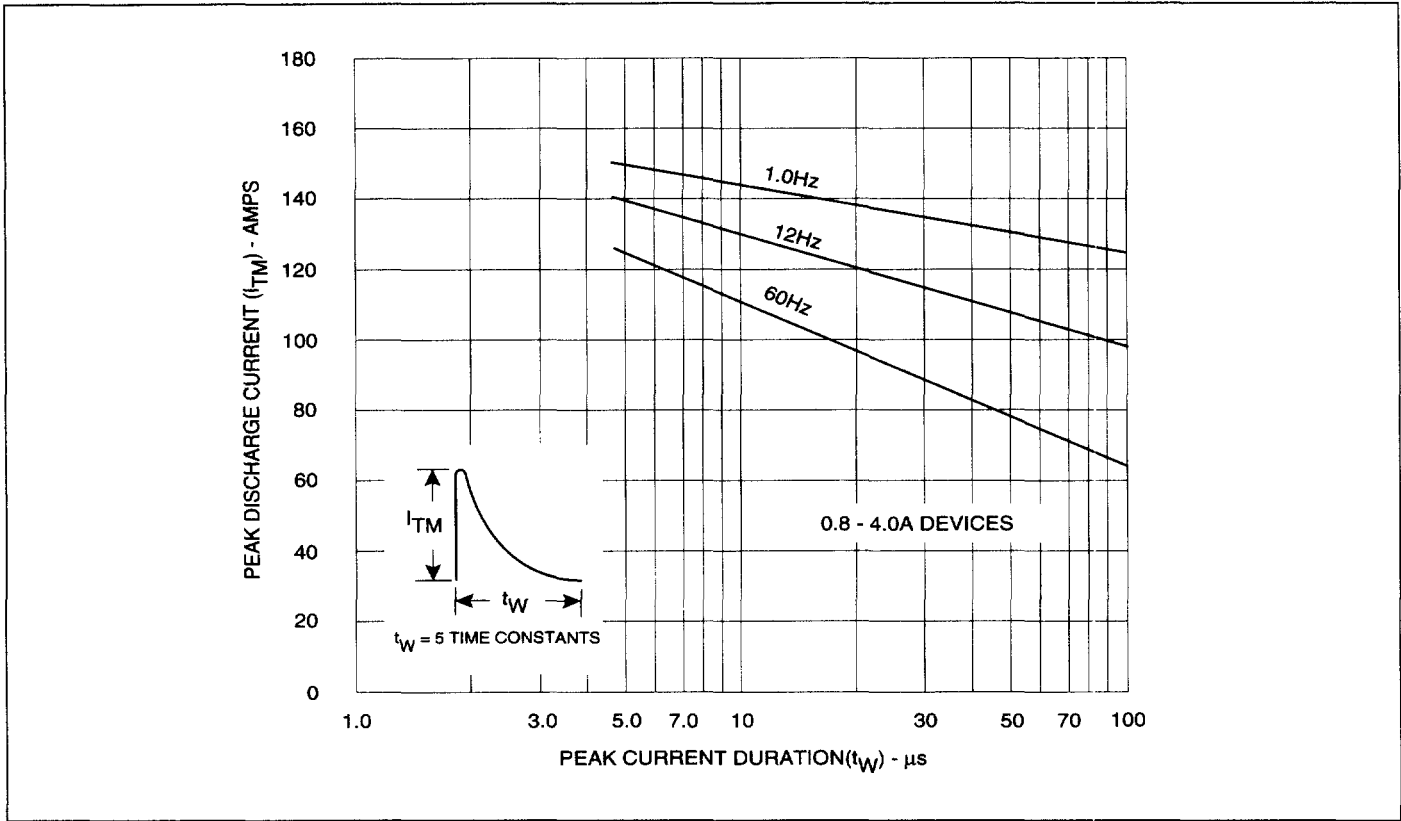

Figure 5.20 Peak Repetitive Capacitor Discharge Current
- (7) 0.8 - 4.0A devices also have a pulse peak forward current on-state rating (repetitive) of 75A. This rating applies for operation at 60Hz, 75°C maximum tab (or anode) lead temperature, switching from 80V peak, sinusoidal current pulse width of 10 μs minimum, 15 μs maximum. See Figures 5.20 and 5.21.